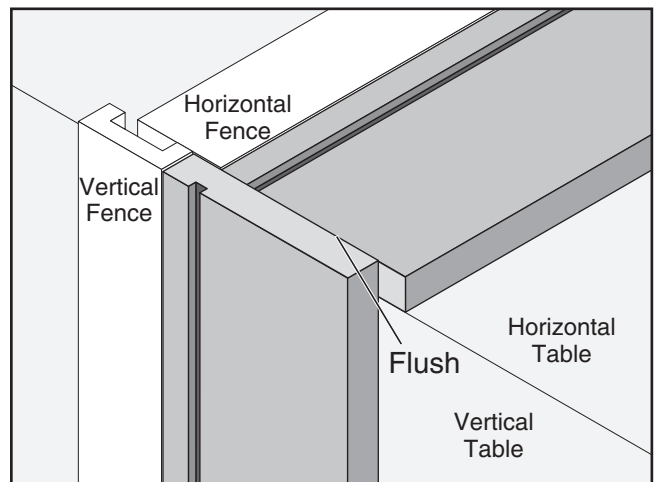

Figure 22. Vertical workpiece flush with horizontal workpiece.
2. Place the vertical workpiece on the vertical support plate, and adjust the height of the vertical support plate until the top of the vertical piece is flush with the top of the horizontal piece, as shown in **Figure 22**, then lock the vertical support plate in place.